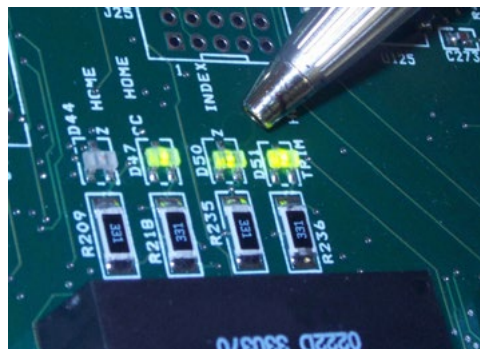

Figure 5 - Z-Index LED (Location D50)
24. Loosen the z-flag and manually rotate it until the z-index LED (located at D50 on the main PCB as shown in Figure 5 above) changes state. Carefully tighten the flag in place at this transition point with the LED light off.